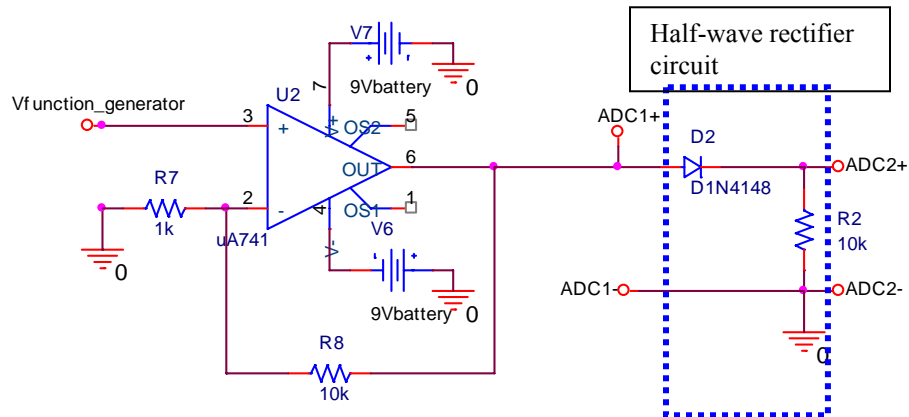

Figure B-1
*half wave rectifier:* You will build a Half-wave rectifier circuit. Build the circuit in figure B-1. Be sure to **use a 10k $\Omega$  resistor for this circuit.** The op-amp circuit isn't changed. ADC1 senses the input signal to the half-wave rectifier circuit. ADC2 is connected to the output of the rectifier circuit. DC couple both channels.
- Return to the circuit in figure B-1, redrawn below